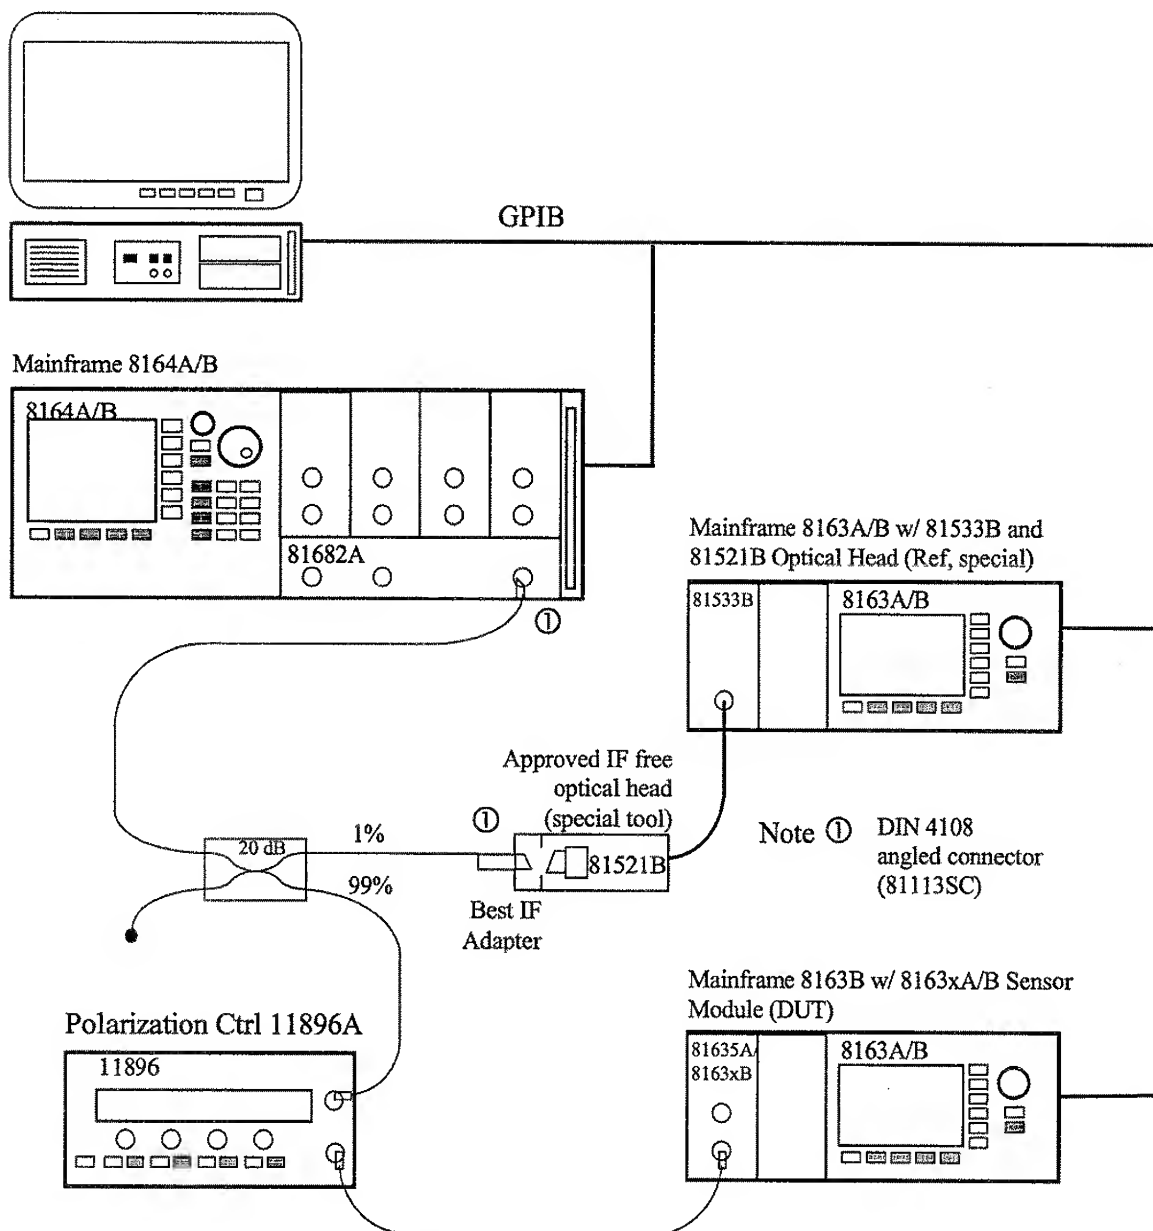

Figure 8 Measurement Setup for PDL Test
- 9 Disconnect the 81610CC Reference Cable from the setup and connect a 81113SC user cable to the Return Loss Module and leave the other end open as shown in Figure 8.